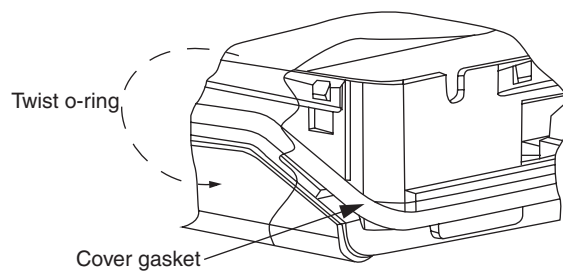

Figure 30. Cover Gasket Location
8. Place a new cover gasket around the chassis ensuring that it is placed under the locking tabs and ledge at the front of the chassis (see Figure 30). To ensure that the gasket remains seated along the groove, twist the gasket between fingers down and toward the chassis on both sides of the chassis.